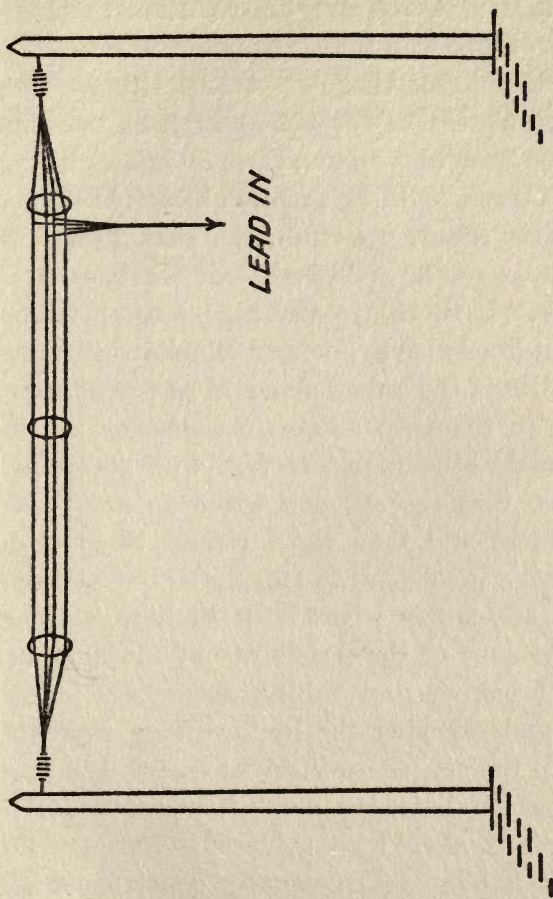

FIG. 29. The cage antenna is very efficient for both transmitting and receiving. The wires are supported in a tubular formation by metal rings.
6. The cage type of antenna can be made into any of the above-mentioned types of antennae. It consists of using a number of strands of wire arranged in a circle instead of the single strand; each wire of the cage antenna is fastened to a number of metal rings which support the wires in the form of a tubular cage (see Fig. 29). The use of the cage form of antenna is becoming very popular and its advantages are: the stresses due to high voltages are much reduced, due to the added surfaces, the capacity of such an antenna is higher than the ordinary